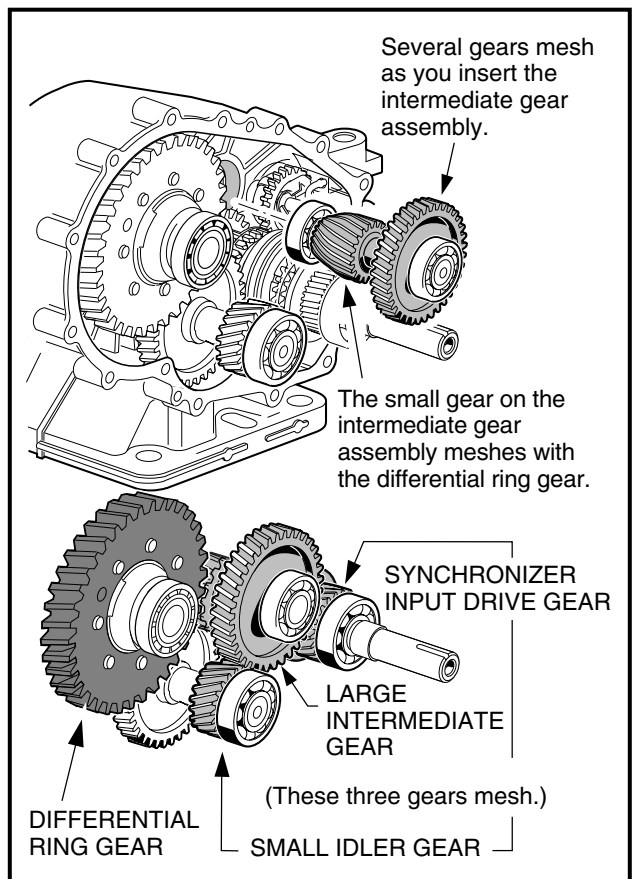

Figure 19-54 Gear Alignment
- 7.5. Install the intermediate gear assembly into the case (**Figure 19-54, Page 19-25**). Do not seat the assembly into the bore. Instead make sure the output ring gear meshes with the input drive gear (55) on the synchronizer gear assembly, and with the small gear on the idler shaft (66) (**Figure 19-14, Page 19-10**).